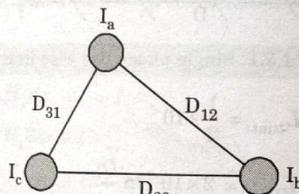

Fig. 4.6.1.
- Consider a single circuit  $3\phi$  system as shown in Fig. 4.6.1. The three conductors are unsymmetrically placed i.e.,  $D_{12} \neq D_{23} \neq D_{31}$  and each conductor has a radius of  $r$  meters.